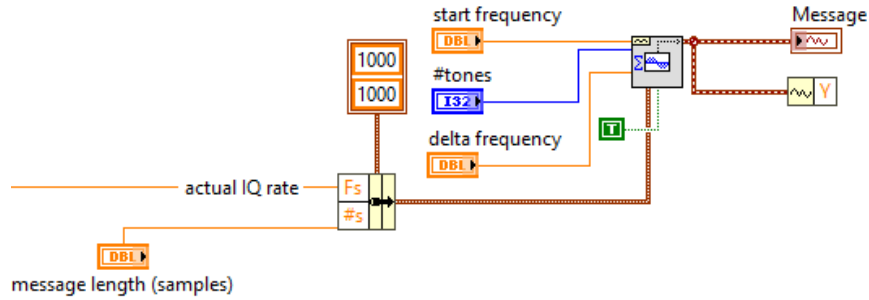

Figure 8: Message Generator
1. The transmitter template contains some blocks called **Message Generator** to generate the required messages. The Message Generator is set to produce a message signal ($m(t)$) consisting of three tones which are initially set to 1, 2, and 3 kHz, but these frequencies can be changed using front-panel controls. The modulation index (μ) is to be user-settable in the range $0 \leq \mu \leq 1$. The Message Generator blocks create a signal that is the sum of a set of sinusoids of equal amplitude. You can choose the number of sinusoids to include in the set, their frequencies, and their common amplitude. The initial phase angles of the sinusoids are chosen at random, however, and will be different every time you run the VI. This will make the message signal look somewhat different every time you run the VI. Figure 8 shows Message Generator blocks. In order to make it easier to set up the transmitter, the Message Generator is also provided in the transmitter template.